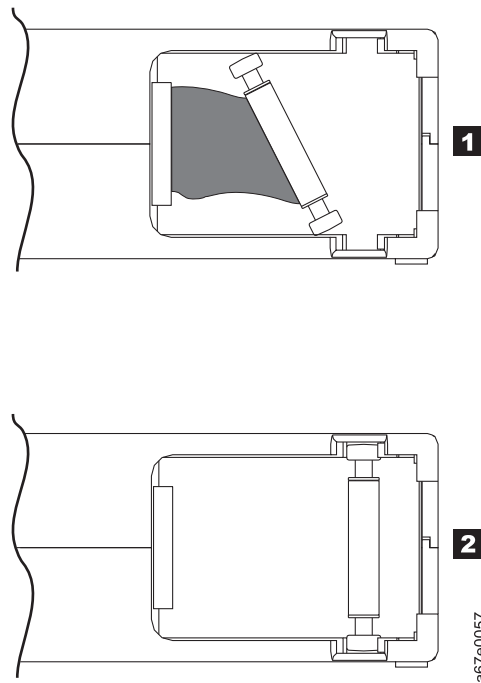

Figure 4-8. Leader pin in the incorrect and correct positions. The cartridge door is open and the leader pin is visible inside the cartridge.
- Check that the leader pin is properly seated (see **2** in Figure 4-8 on page 4-11).
- Do not drop the cartridge. If the cartridge drops, slide the cartridge door back and ensure that the leader pin is properly seated in the pin-retaining spring clips (see **2** in Figure 4-8 on page 4-11). If the leader pin has become dislodged, go to “Repositioning or Reattaching a Leader Pin.”
Example: Improper Placement of Leader Pin (see Figure 4-8 on page 4-11)
A leader pin that is improperly seated inside a cartridge can interfere with the operation of the drive. Figure 4-8 shows a leader pin in the incorrect **1** and correct **2** positions.